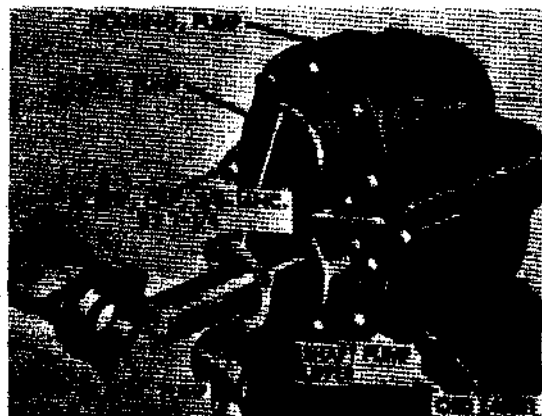
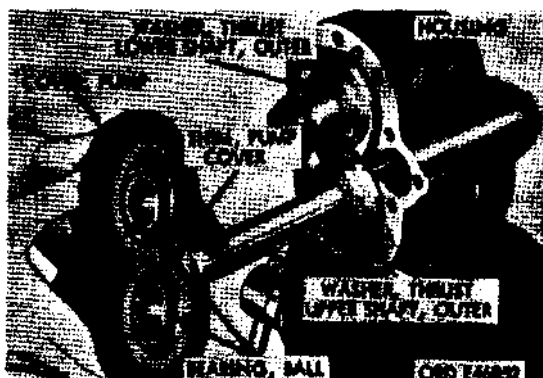
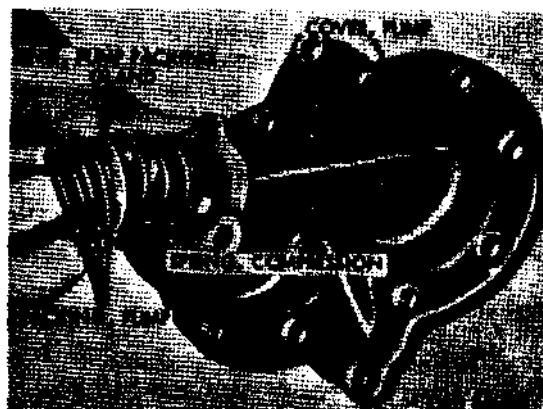

Figure 82. Removing pump packing gland from shaft
Figure 83. Removing pump cover from pump housing
Figure 84. Disassembling pump cover
(1) Remove pump packing gland and cover.
- (a) Secure pump housing in vise and remove the three cap screws and lockwashers attaching pump packing gland to pump cover. Slide pump packing gland from pump upper shaft (fig. 82).
- (b) Remove the 12 cap screws (fig. 83) and lockwashers from pump cover. Remove pump cover and pump cover shims from pump housing (fig. 82). Take special care to protect shims.
- (c) Remove pump packing, pump packing gland ring, and compression spring from recess in outside of pump cover (fig. 84). Remove two ball bearings from inside of pump cover (fig. 83).
(2) Remove upper and lower shaft assemblies.
(2) Install pump cover and pump packing gland.
- (a) Install two ball bearings into inner side of pump cover (fig. 83).
- (b) Position pump cover shims and pump cover onto pump housing so as to aline mounting holes. Insert twelve cap screws (fig. 82), and twelve lockwashers and tighten to 30-40 pound-feet torque, to hold pump cover securely in place.
- (c) Install compression spring, pump packing gland ring, and new pump packing (fig. 84) in cover.
- (d) Install pump packing gland on pump upper shaft and position to pump cover (fig. 84). Install the three cap screws and lockwashers attaching pump packing gland to cover.